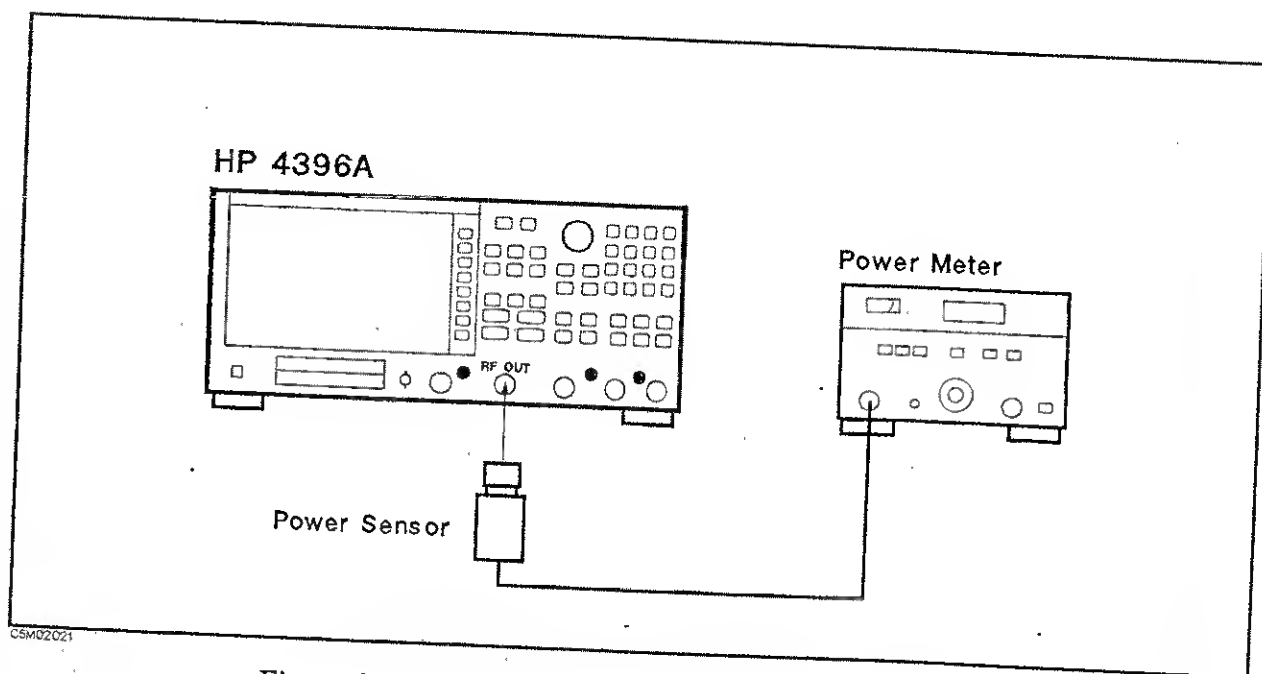

Figure 2-2. Source Level Accuracy/Flatness Test Setup
2. Connect the test equipment as shown in Figure 2-2.